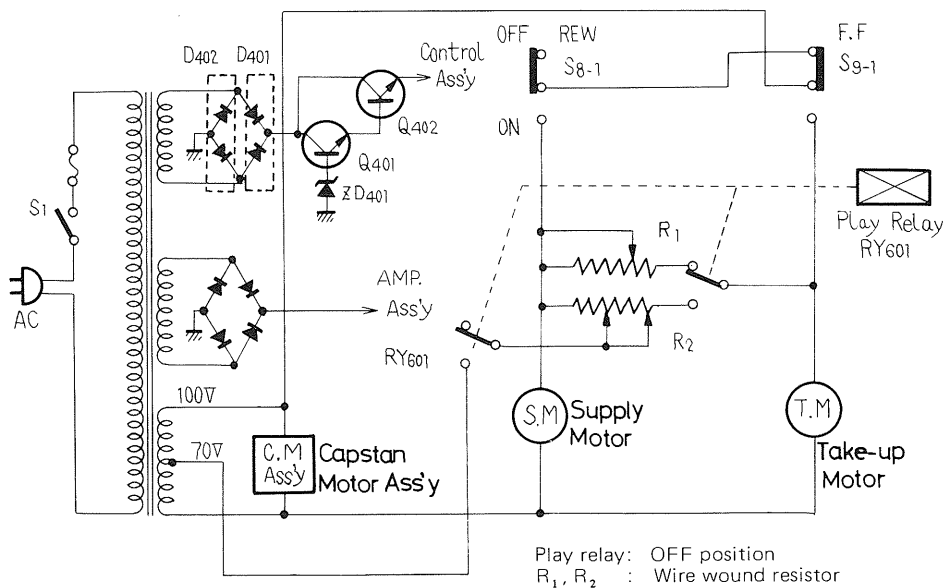

Fig. 1
When the power switch S_1 is switched on, AC 100V is supplied to the capstan motor from the secondary side of the power transformer, and the motor begins to rotate. A DC voltage rectified in D_{401} , D_{402} , stabilized in the stabilizer formed by Q_{401} , Q_{402} and ZD_{401} , is supplied to the control circuit (Fig. 1).
Operation of brake solenoid SL_1 releases the brakes of the supply motor (SM) and take-up motor (TM). Operation of the pinch solenoid SL_2 causes the pinch roller to be pressed against the capstan. Operation of the play relay RY_{601} enables AC 70V from the secondary side of the power transformer (see Fig. 1) to be applied to the supply and take-up motors through slide resistors R_2 .
2. As shown in Fig. 1, AC 100V is applied to the supply motor via F.F. button S_{9-1} and rewind button S_{8-1} , and tape rewind begins.